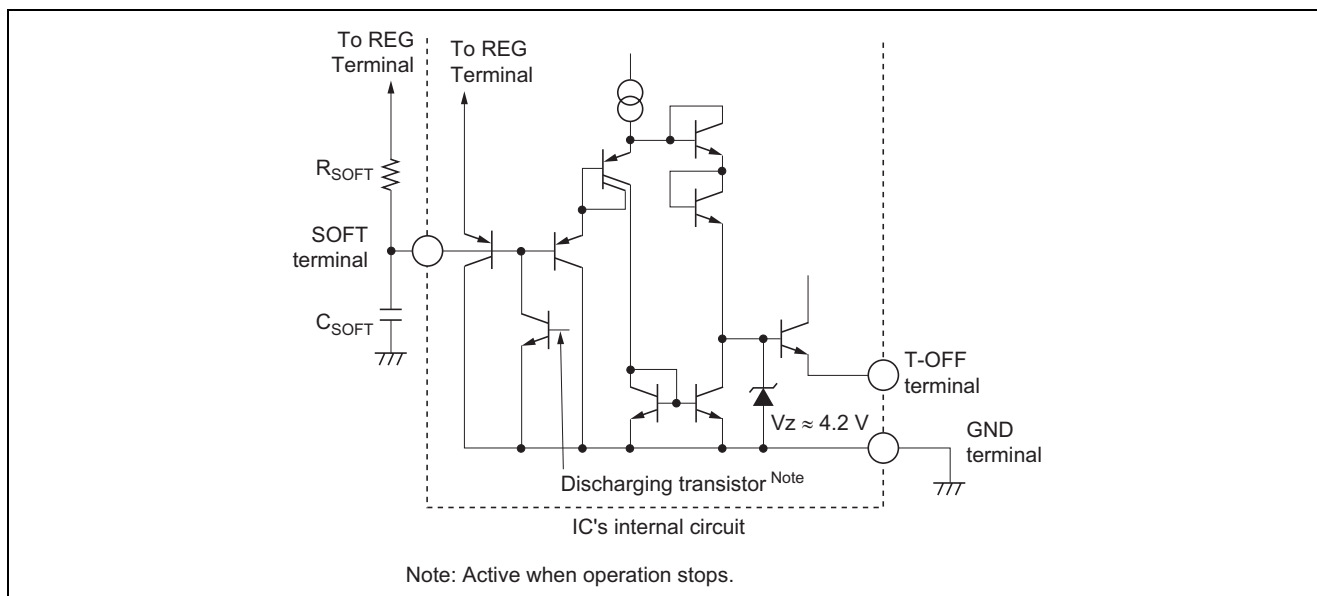

Figure 4 Circuit Diagram of SOFT Terminal Section and T-OFF Terminal Section
- (1) It is ideal for primary control as IC driving current is supplied from the third winding of the main transformer at the start-up because constant ON duration is obtained from start-up.
- (2) It is possible to get a wide dynamic range for ON/OFF ratio by pulse-by-pulse current limit circuit.
- (3) The response characteristics at power-on is not affected by input voltage as the pulse-by-pulse limit current value is not affected by the input voltage.
Figure 4 shows the circuit diagram of the soft start. If SOFT terminal voltage is low, T-OFF terminal voltage becomes low and V_{T-OFF} in equations (3) and (4) become low.